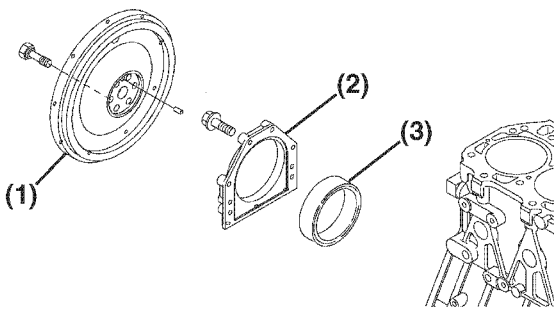

Figure 6-136
- Apply ThreeBond Liquid Gasket No. 1212, Yanmar Part No. 977770-01212 to the mounting flange of the seal housing (Figure 6-136, (2)).
- Reinstall the flywheel (Figure 6-136, (1)) and tighten the bolts to the specified torque. See *Special Torque Chart* on page 6-25 for specifications.